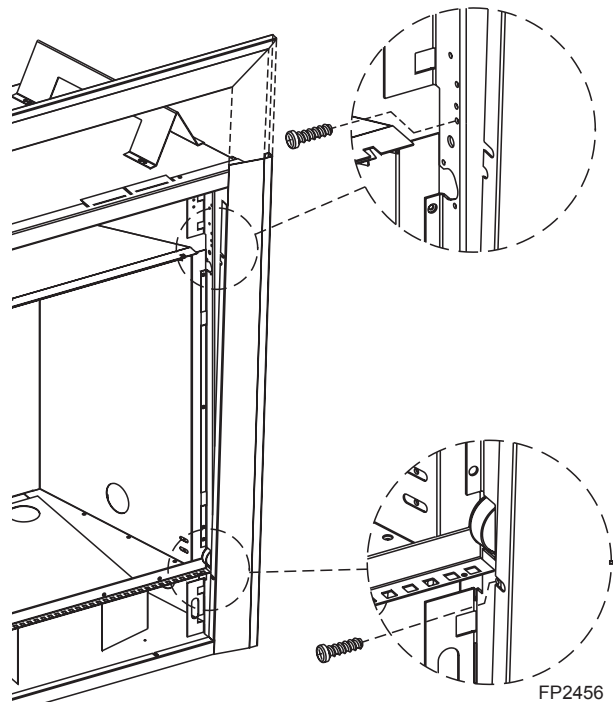

Figure 30
4. Loosely install four supplied screws into left and right sides of unit face. Leave approximately 1/8th in. of screw shaft protruding from unit in each location. *Figure 30*